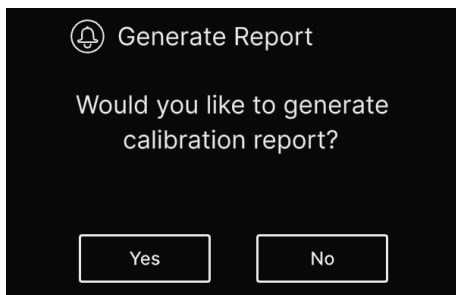
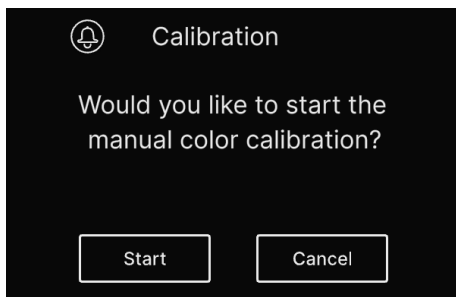

Figure 5.2-37 *Generate Report Prompt*
Figure 5.2-38 *Start Calibration Prompt*
Once the calibration starts, select **"Yes"** to generate a report, as shown in Figure 5.2-37, and press **"Start"** to proceed with the calibration, as shown in Figure 5.2-38. Then, a prompt indicating the probe placement will appear, press **"Confirm"** to continue.
- When the probe placement prompt appears as shown in Figure 5.2-38, a center marker will automatically load in the center of the screen to facilitate probe placement.